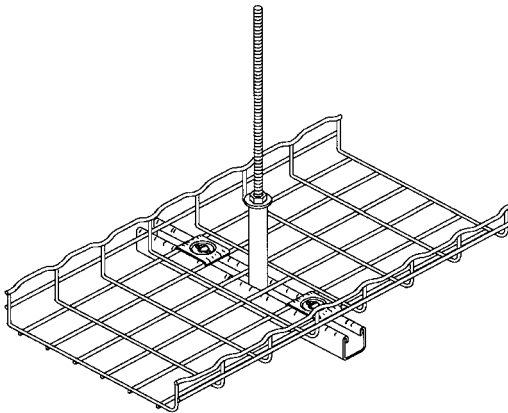

Figure 4.3A
4.2.1.3 Center Hung Support (See Figures 4.3A and 4.3B)